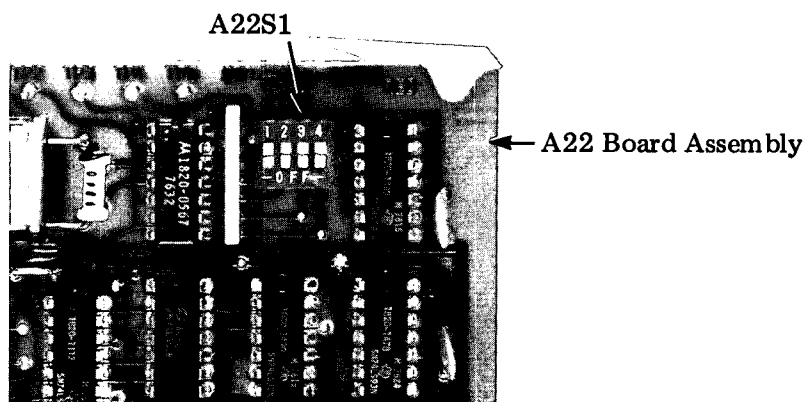

Figure 5-10. A22S1 Switch Setting.
- c. Set integrator test switch A22S1 (located at upper right on A22 Display Control and RAM Board Assembly) to TEST 1 position. See Figure 5-10 which shows location of switch S1.